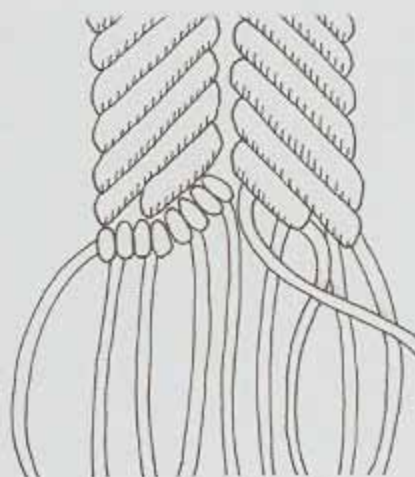
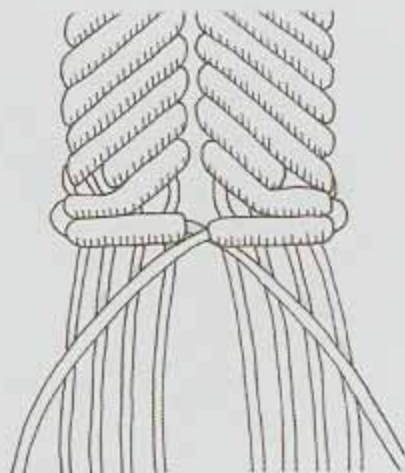

Fig. 10
Fig. 11
3. Bring Cord #5 out to the left horizontally and knot on Cords #4 - 1 with **DHHs** (see Figure 10). Bring the **AC** back around towards the center and make another horizontal row of **DHHs** directly under the last one, working from left to center (see Figure 11).